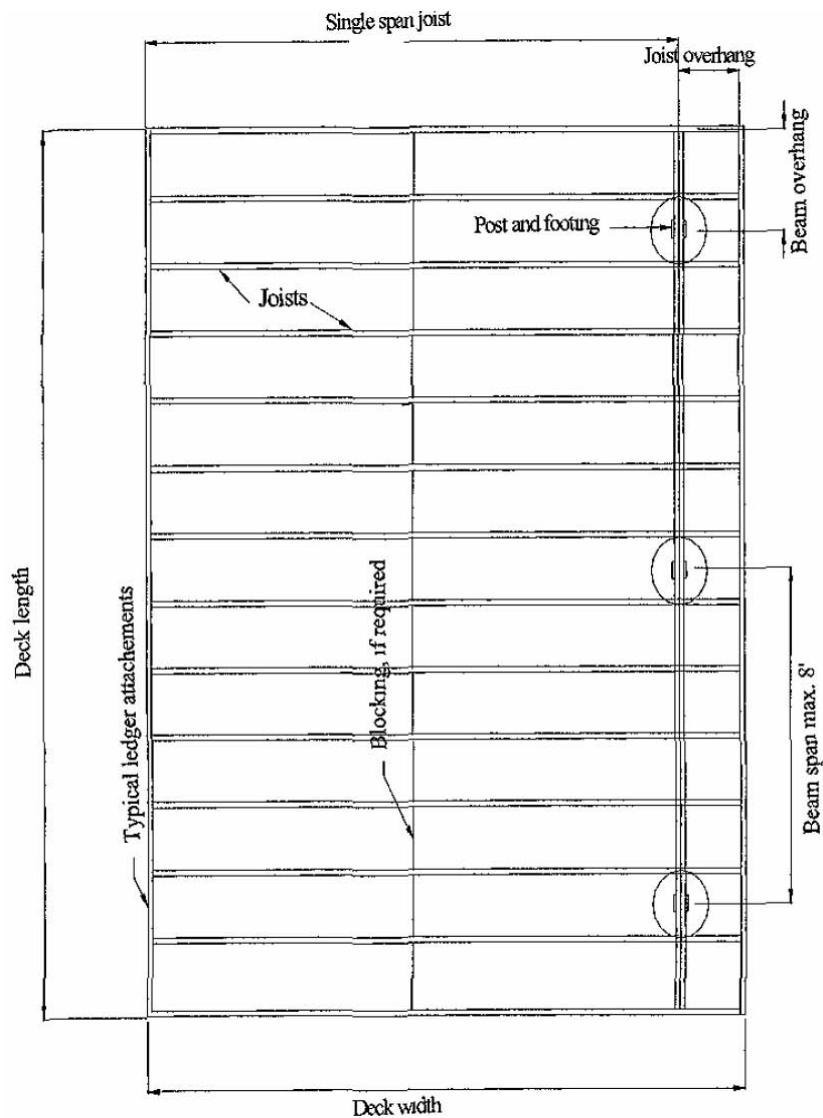

Figure 1: Framing plan for an attached deck
1. The use of this package, in lieu of construction plans, applies to typical rectangular shaped decks which are single span, single level decks only (Figure 1).